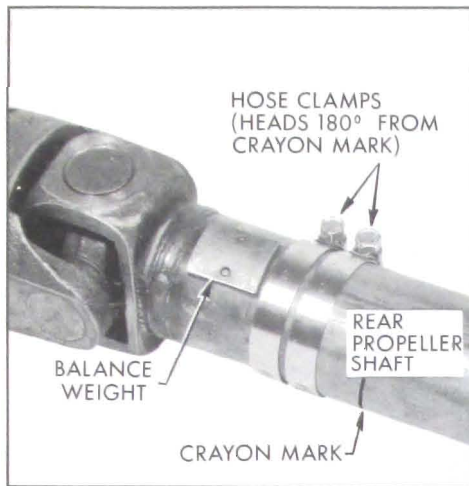

Figure 6-56—Hose Clamps in Position With Heads Opposite Crayon Mark
3. Install two Whittek #28 hose clamps (Gr. 1.166, Part #1351813) on propeller shaft as shown in Figure 6-56. Position each clamp with heads 180° from crayon marking. Tighten clamps.